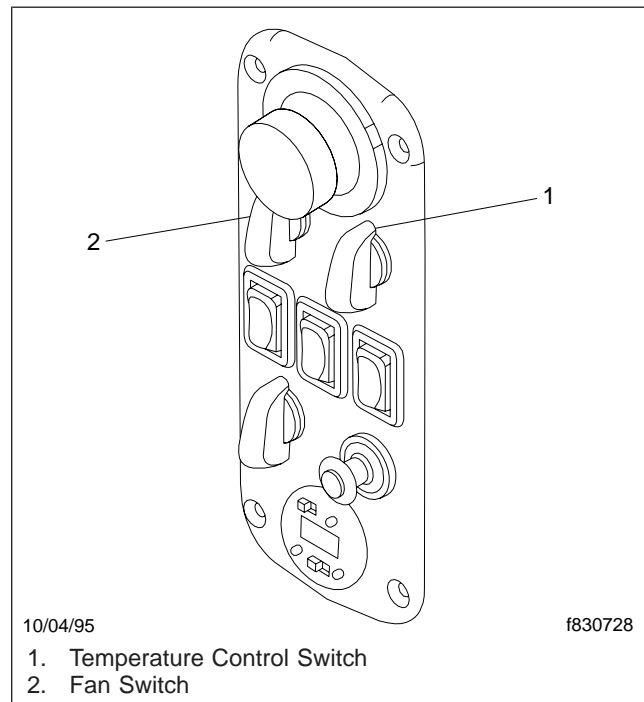

Fig. 4.8, Sleeper Climate Control Panel
The sleeper heater and air conditioner is installed in the right-side baggage compartment and uses the cab's refrigerant system for air conditioner operation. The sleeper heater and air conditioner is equipped with a separate evaporator coil, expansion valve, and fan. It is also equipped with its own heater core and water valve, independent of the cab heater. The sleeper climate control panel is mounted on the right rear wall or the rear overhead storage compartment. See Fig. 4.8.
2. Turn the temperature control switch all the way clockwise to heat. Turn the fan switch to position 3. See **Fig. 4.8**.
2. Turn the temperature control switch on the sleeper climate control panel all the way counterclockwise to cool. Turn the fan switch to position 3. See **Fig. 4.8**.